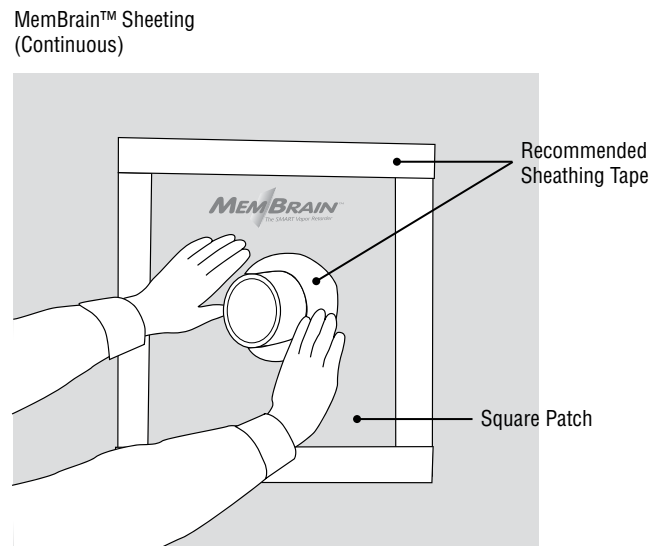

Figure 11: Patch attachment.
- Place the square patch over the penetration. (See Figure 11)